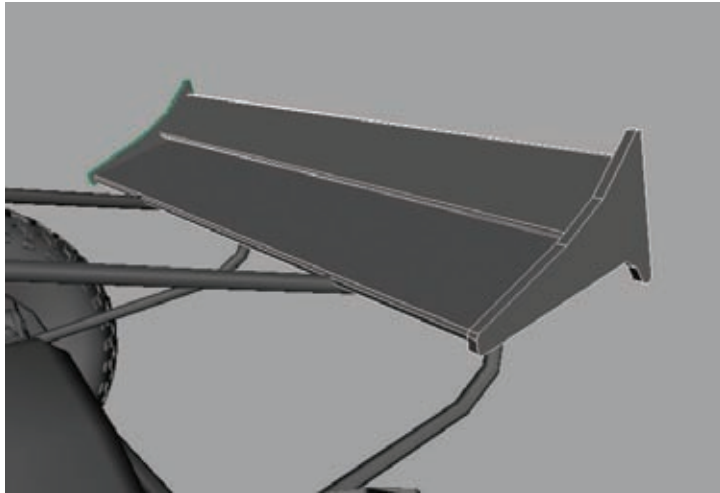

Figure 4.44
8. Extrude the polygonal shape you create about two inches or so to give it some thickness and place it on the far end of the spoiler blades. Duplicate it and move it over to the opposite side. You should get something similar to Figure 4.44.
Keen-eyed readers will notice that the dune buggy's support strut was featured in Figure 4.43 but not in Figure 4.44. This is just a result of how I captured the images for this book and not me removing it. It's still there, just not shown, in Figure 4.44.